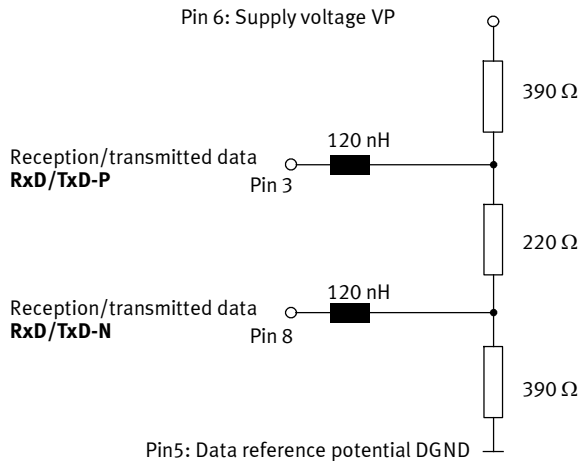

Fig. 1/6: Circuit diagram of a bus terminal network in accordance with EN 50170
- To terminate, use a bus terminal network on both ends of the fieldbus segment (see Fig. 1/6).
Use the fieldbus plugs from Festo for the bus terminal (see Fig. 1/5). A bus terminal network that can be connected and disconnected is integrated in the housing of this plug.